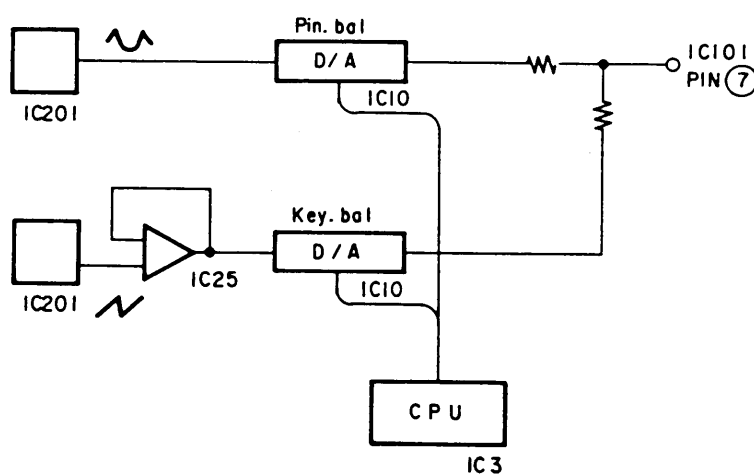

Fig. 3-15 KEY BAL, PIN BAL correction block
The SAW wave amplified the output of IC201 by IC25 is referred to the reference signal. The signal is input to IC10 (D/A). This signal is adjusted the level by the signal of CPU (IC3) to obtain the KEY BAL correction waveform. Also, the parabola wave of IC201 which is referred to the reference signal is input to IC10 (D/A). This signal is adjusted the level by the signal of CPU (IC3) to obtain the PIN BAL correction waveform. The KEY BAL correction waveform mentioned above is added to this waveform, and the signal is input to pin ⑦ of IC101 to modulate the phase of the horizontal oscillation. The block diagram of the KEY BAL, PIN BAL correction waveform circuits are as shown in Fig. 3-15.